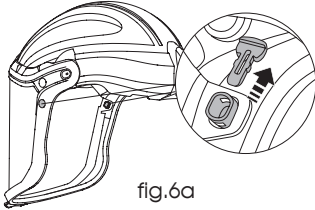
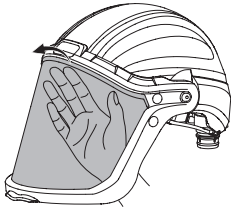

fig.6a
fig.7a
**To remove visor:** Pull up the latches and remove buckles from both sides (See fig.6a / 6b), keep the parts appropriately. Push the central of visor top edge from internal side, until you hear a "click" to get out the visor (See fig.7a / 7b).